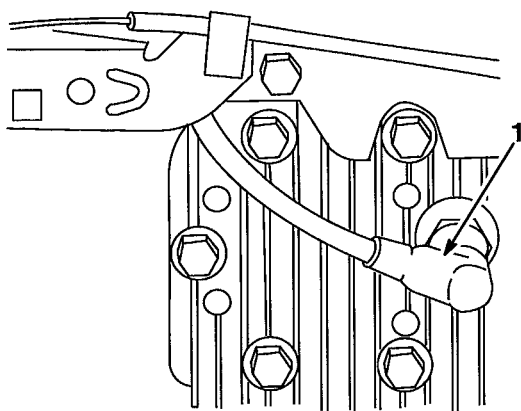

Figure 30
1. Stop engine and disconnect spark plug wire (Fig. 30) before installing or removing grass chute.
1. Stop engine and disconnect spark plug wire (Fig. 30) before installing or removing mulch plate.